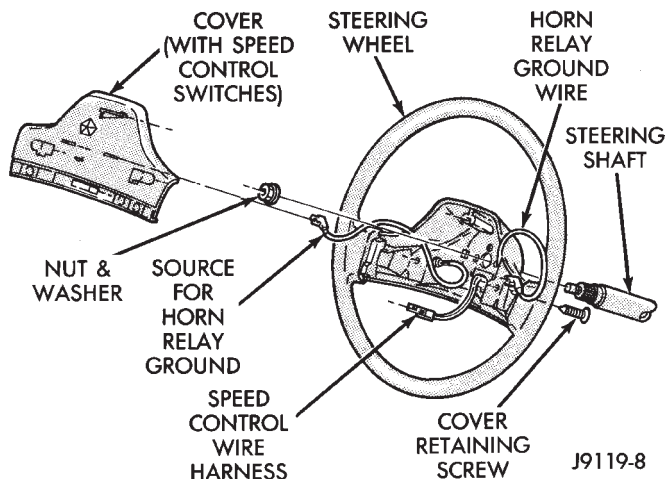

Fig. 3 Horn Pad Removal (Typical)
(4) Remove the steering wheel center pad. Disconnect electrical components such as horn lead, air bag lead and speed control switch lead (if equipped) from center pad (Fig. 3).